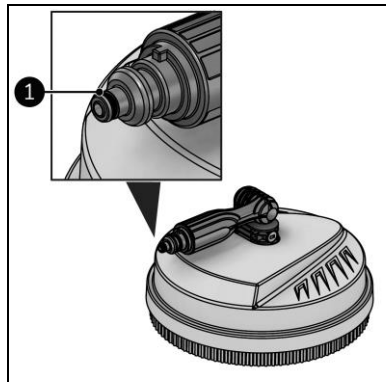

Figure 20
4. Apply Vaseline to the O-ring of the floor cleaner (Figure 20, pos. 1).